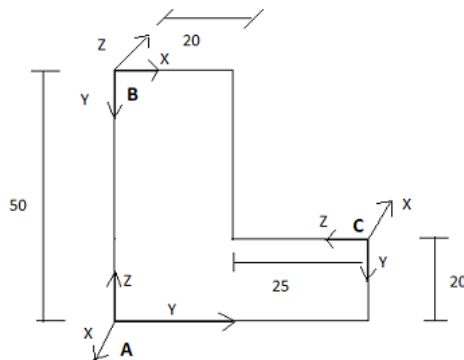

Fig.2B
- 2B.** Determine the homogeneous transformation matrix ${}^A H_B$ and ${}^A H_C$ for the co-ordinate frames attached to the corners C and B with respect to A as shown in Fig.2B. 04